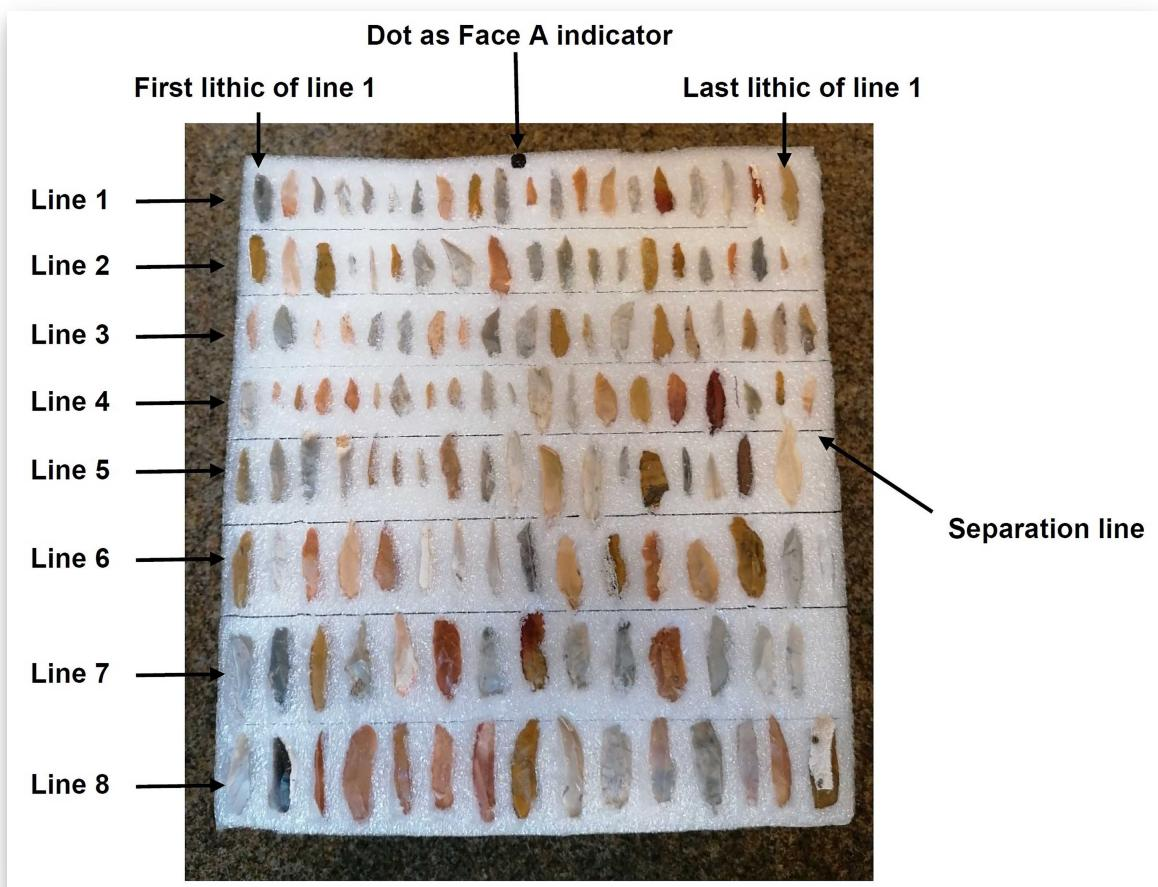

Fig. 1: Overview of a completely filled Styrofoam body (Face A).
- 6.1 Insert the artefact directly into its hole and immediately document its position in the Styrofoam as described in **Step 6.2** (Fig. 1).